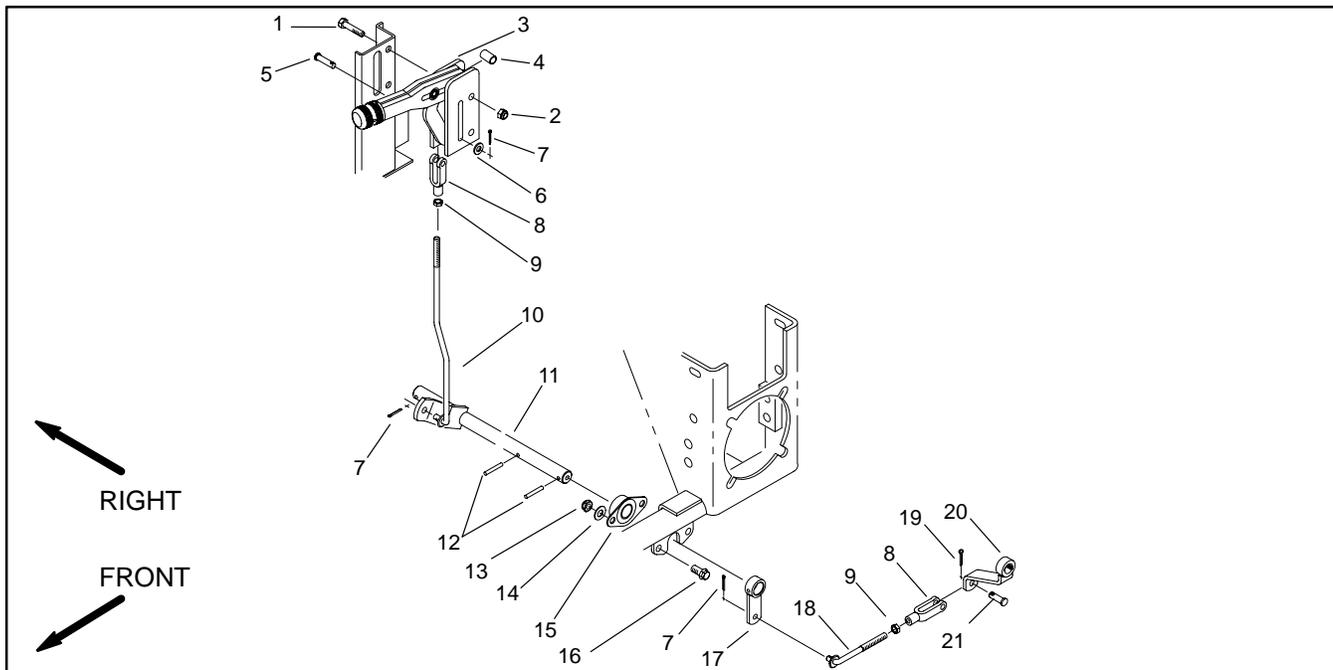

Figure 10
3. Remove and replace parts as necessary to repair brake linkages (Fig. 10).